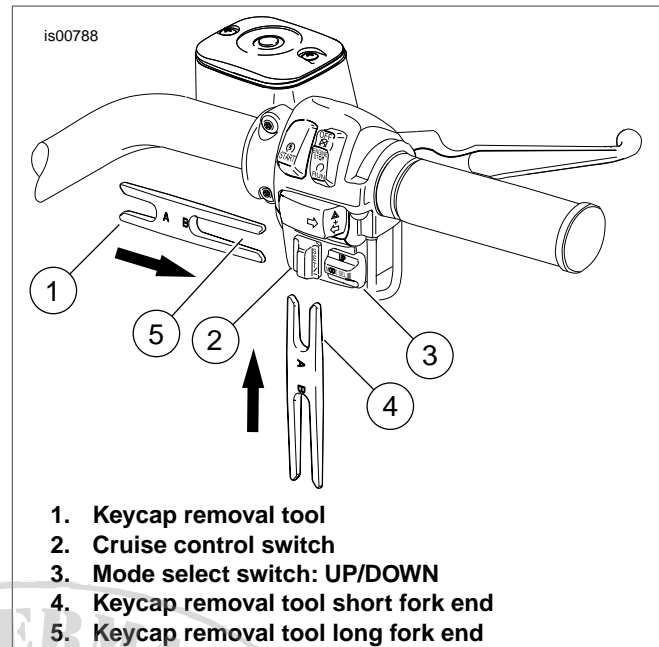

Figure 7. Right Handlebar Lower Switch Housing Keycap Removal
5. See Figure 7. To remove the cruise control keycap (2), use the short end (4) of the keycap removal tool (1). Push upwards under the keycap. The tool taper will slowly push the keycap off of the switch pin.